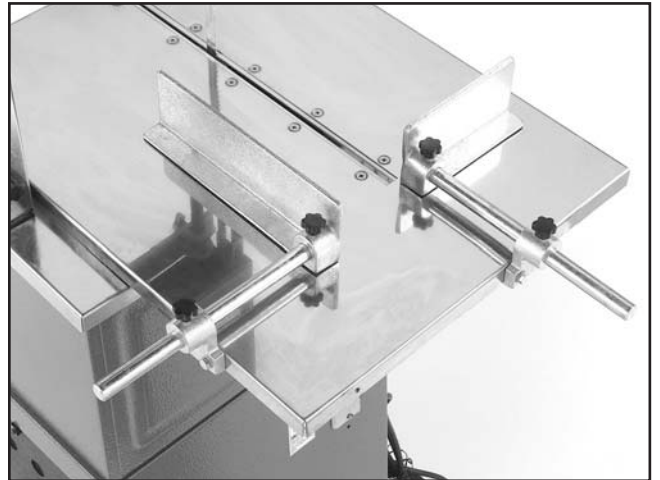

Figure 27. Fences installed on supports.
3. Slide the long fence into the bracket on the left and the short fence into the bracket in front (**Figure 27**).